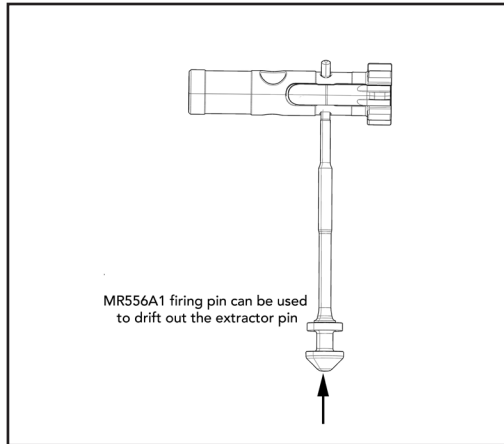

Fig. 42– Drift out the Extractor Pin
g. Depress the rear of the extractor to equalize pressure and then drift out extractor pin utilizing the small tip of the disassembly tool. The rifle's firing pin can also be used. The extractor pin can be removed from either direction (Fig. 42).